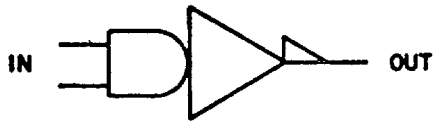

Figure 4-8. Multiple Input Amplifier
a. Multiple input amplifiers are symbolized by combining the amplifier and AND gate symbols. (See Figure 4-8.)